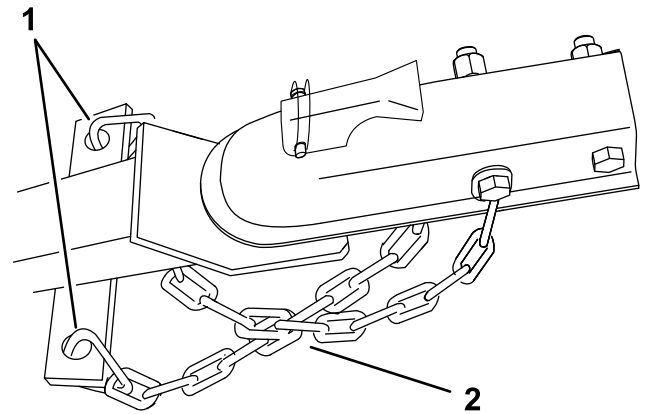

Figure 16
3. Connect each length of chain to the safety chain mounting point on the tow vehicle with the connecting links (Figure 16).